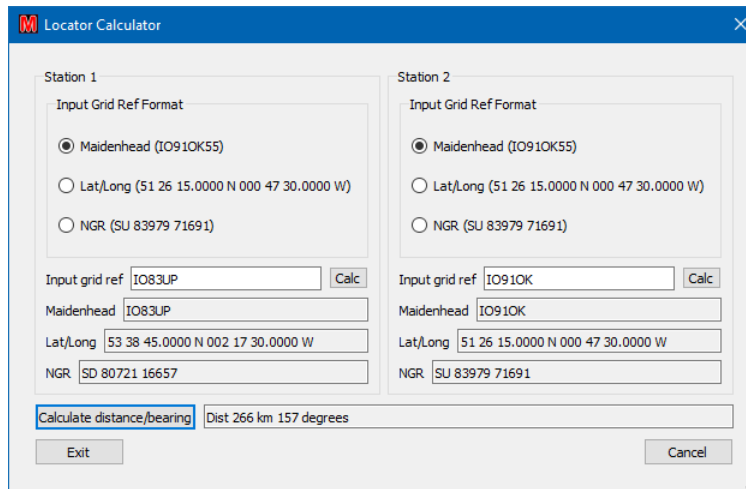

Figure 38 – Locator calculator
Depending on the option selected, you can enter a Locator, a Latitude/Longitude, or a (UK) National Grid Reference³⁵ into the “Input grid ref” box (see Figure 38) and convert between the various displays. Selecting “Calc” (or hitting “Return”) will then calculate and display the other two formats. If both Station details are given it also calculates the distance and bearing from Station 1 to Station 2.